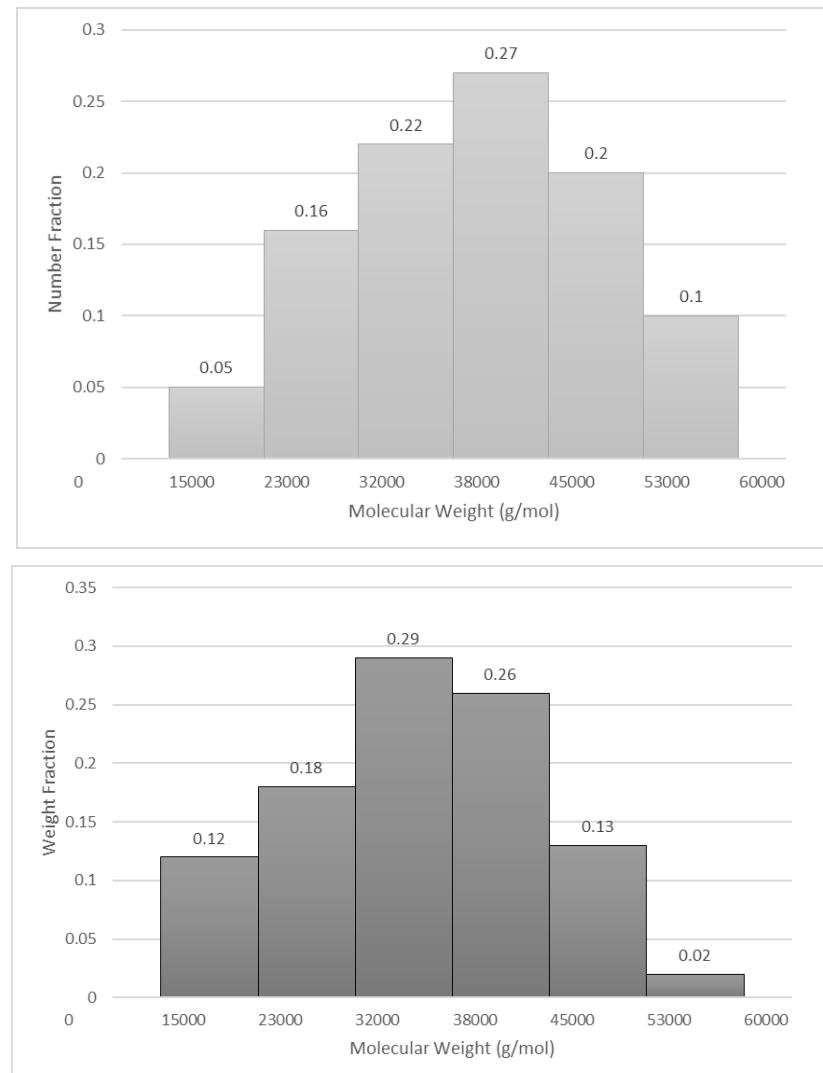

Figure 1c(i): Molecular Weight Data / Rajah 1c(i): Data Berat Molekul
- CLO2 (c) During your internship under the research and development unit, you have been requested to study about Acrylonitrile Styrene Acrylate (ASA) $C_{18}H_{23}NO_2$ data in Figure 1c(i).
- i. Figure 1c(i) shows the hypothetical polymer molecule size distributions on the number and weight fractions of ASA. Calculate the weight average molecular weight (M_m).